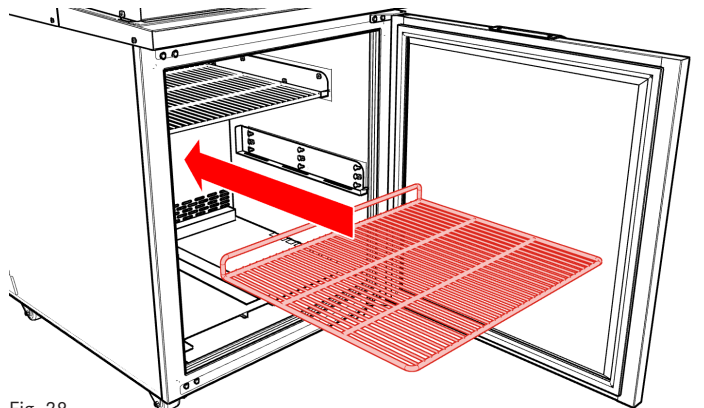

Fig. 28
4. Once wire shelf is dry, place back onto shelf rails (Fig. 28).